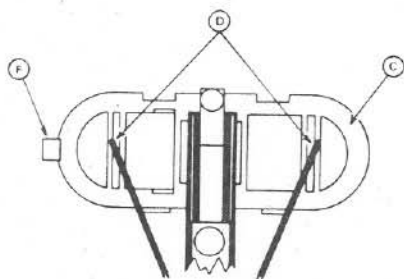
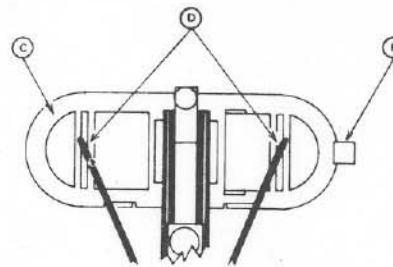

FIGURE 2 -
FIGURE 3 -
4. Separate red switch bar "C" from switch assembly by lifting switch legs "D" away from the microphone housing (Figures 2 and 7).
5. Replace red switch bar "C" for non-locking operation so that tab "F" is at the opposite side of the switch assembly, as shown in Figure 3. Figure 2 shows switch bar "C" in the locking/non-locking position, as shipped.